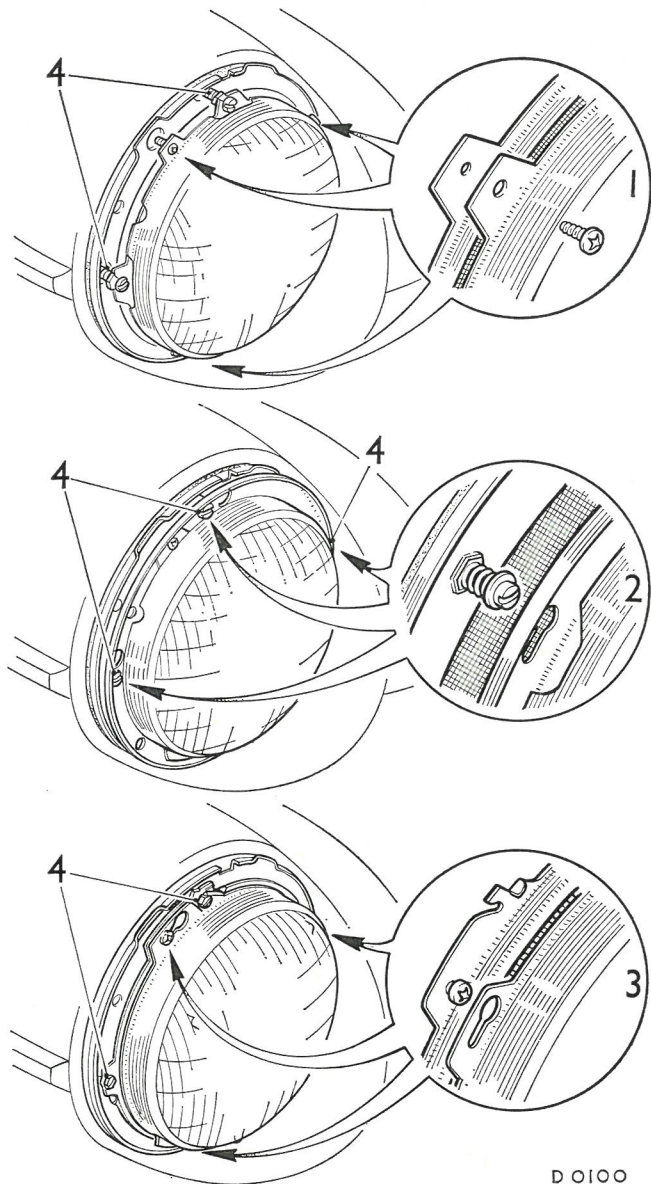
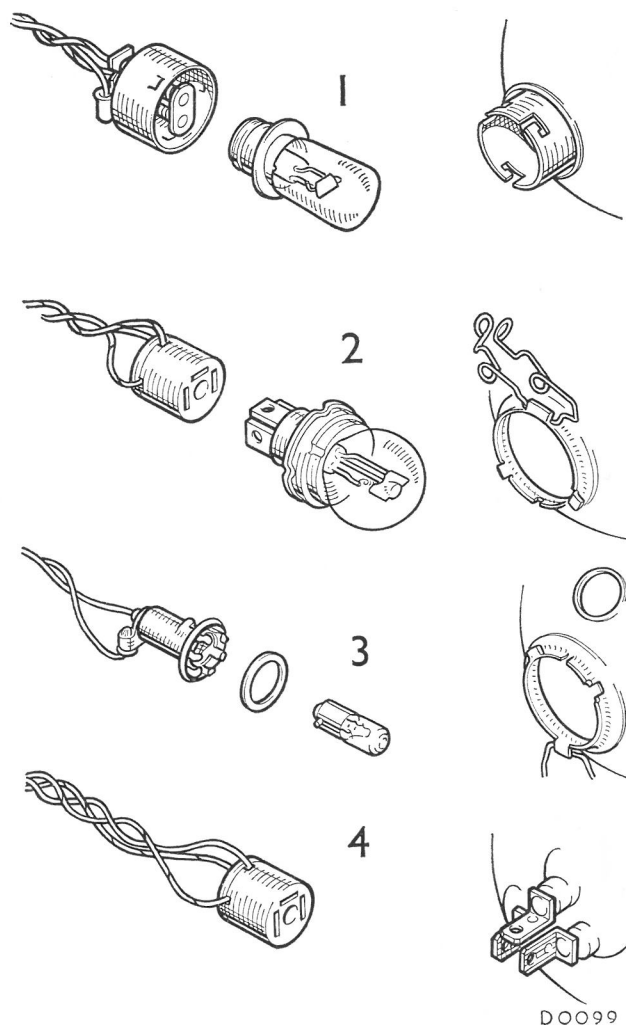

Fig. N.14
Fig. N.15
Variations within the two basic types cater for the local lighting regulations existing in the country for which the car was produced. The method of retaining and adjusting the light unit together with the type of lens and bulb used are subject to territorial variation. Fig. N.14 shows the alternative methods of retaining and adjusting the light unit and Fig. N.15 the different types of bulb fittings used.
Removable-type retaining screw (1) Fig. N.14
- (1) Ease the bottom of the outer rim forward away from the lamp, and lift it off the retaining lugs at the top of the lamp.
- (2) Remove the rubber dust excluder (if fitted).
- (3) Remove the three screws securing the light unit retaining plate and withdraw the light unit from the lamp body.
Combined adjusting/retaining screw (2) Fig. N.14
- (4) Carry out the operations detailed in (1) and (2).
- (5) Press the light unit inwards against the tension of the springs and turn it in an anti-clockwise direction until the heads of the screws can pass through the enlarged ends of the slots in the retaining plate, then withdraw the light unit.
Captive-type retaining screw (3) Fig. N.14
- (6) Carry out the operations detailed in (1) and (2).
- (7) Slacken the three retaining screws and turn the light unit retaining plate in an anti-clockwise direction until the heads of the screws can pass through the enlarged ends of the slots in the retaining plate, then withdraw the retaining plate and light unit.
Cap-type holder (1) Fig. N.15
- (8) Press and turn the cap anti-clockwise, lift off the cap and withdraw the bulb.
- (9) Fit the bulb into the reflector ensuring that the notch in the bulb flange locates on the ridge in the reflector.
- (10) Engage the cap lugs in the reflector slots, press and turn the cap clockwise.
Spring clip type (2) Fig. N.15
- (11) Withdraw the three-pin socket.
- (12) Disengage the spring clip from the reflector lugs, swing the clip up and withdraw the bulb.
- (13) Fit the bulb into the reflector ensuring that the pip on the bulb flange engages the slot in the reflector.
- (14) Swing the spring clip back, ensure that the coils in the clip are resting on the base of the bulb, and engage the legs of the spring clip under the reflector lugs.
Headlamp pilot lamp (3) Fig. N.15
- (15) Withdraw the holder from the reflector.
- (16) Press and turn the bulb anti-clockwise and withdraw the bulb.
- (17) Locate the pins of the bulb in the grooves in the holder, press and turn the bulb clockwise.
- (18) Press the holder into its hole in the reflector.
- (20) Carry out the operations detailed in (1) and (2).
- (21) Adjust the beam vertically by turning the adjusting screw, located at the top of the lamp, in the required direction.
- (22) Set the beam horizontally by turning the adjusting screw located on the right-hand side or, on some models, the adjusting screws on both sides of the lamp (see Fig. N.14) in the required direction.